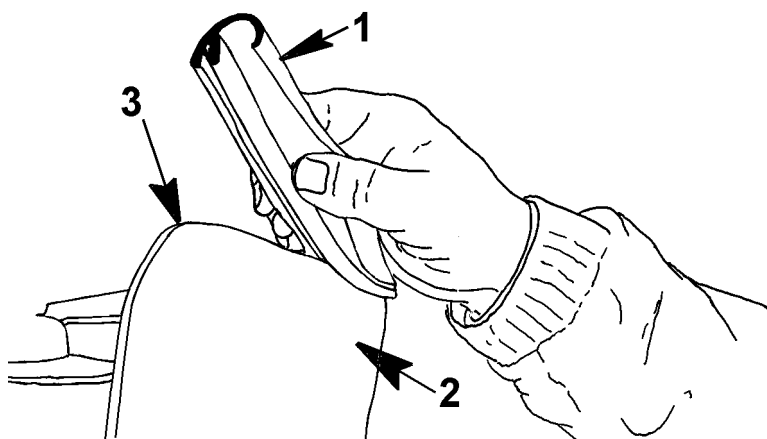

Figure 36 Hood Seal — Install
2. Pull upward to remove the seal (Item 1, Figure 36) from the entire lip of the cowl tray across the front of the cab.